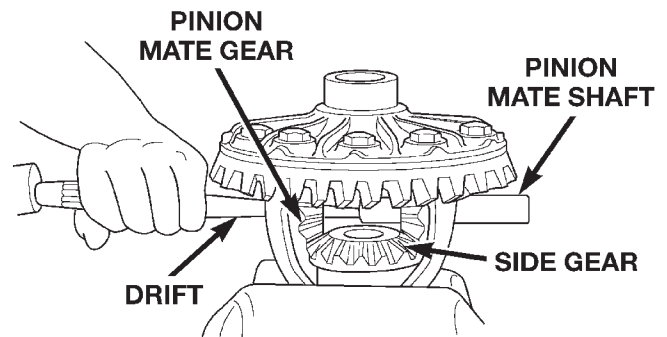

Fig. 66 Mate Shaft Removal
- (5) Remove the pinion gear mate shaft. If necessary, use a drift and hammer (Fig. 66).